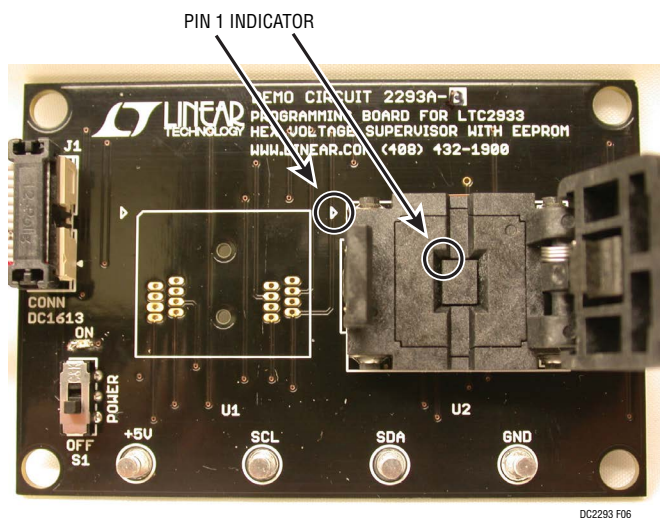

Figure 6. DC2293A-B and IC Installed
4. If using DC2293A-B, flip open the socket lid and place the IC inside with pin 1 located in the upper left corner. See Figure 6.